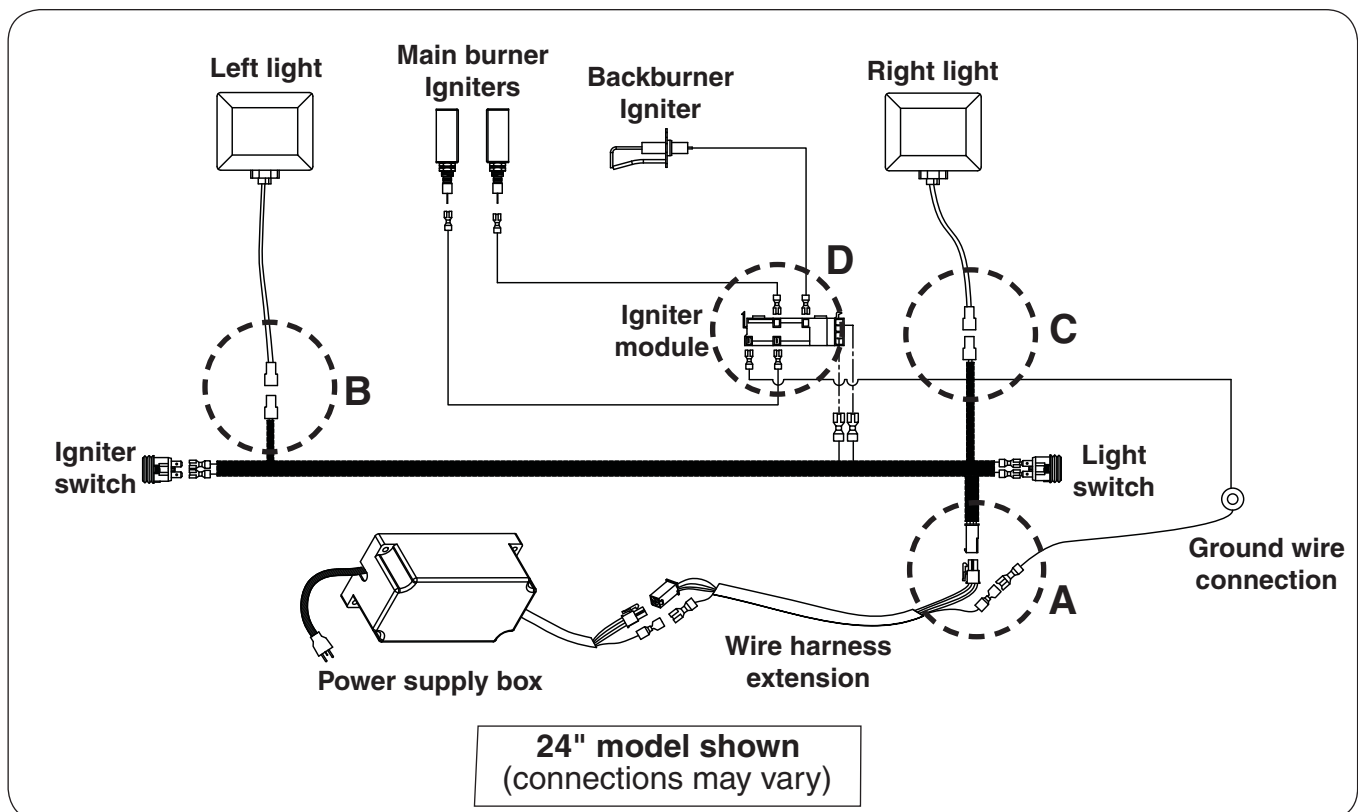

Fig. 34-1 - Wire diagram
2. Disconnect the main wire harness connections (**A**), the left light connection (**B**), the right light connection (**C**), and the igniter wires (**D**). It is recommended to temporarily label the wires for reference when reconnecting. See Fig. 34-1. When disconnecting, be sure to pull from the connectors, and not the wires.